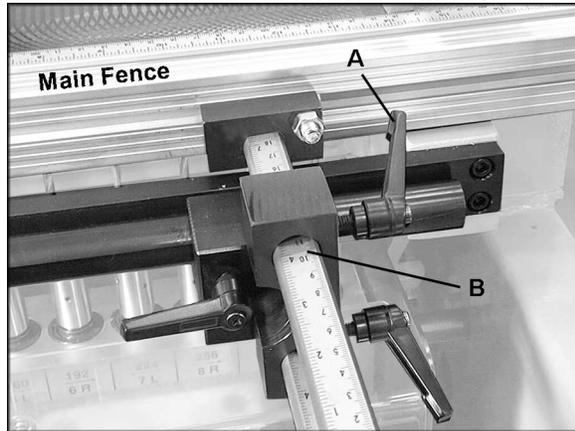

Figure 34
- Loosen locking handle (A, Figure 34) at both ends of the main fence.
- Move the fence forward or backward, making sure that the measurement on the bar scale (B, Figure 34) is the same on both ends of the fence.
- Tighten locking handle (A, Figure 34) at both ends of the main fence.